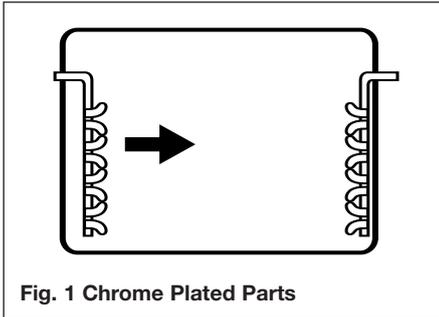

Fig. 1 Chrome Plated Parts
Chrome plated parts (Fig 1)
Do not use abrasives or polishes. Use a moist soap pad, eg; Brillo. Shelf runners can be removed for cleaning. Grasp the runners and slide out of the hanging holes as shown in fig 1.
1. To remove holding tank, open the access door. Pull retaining clip upwards (fig. 1).